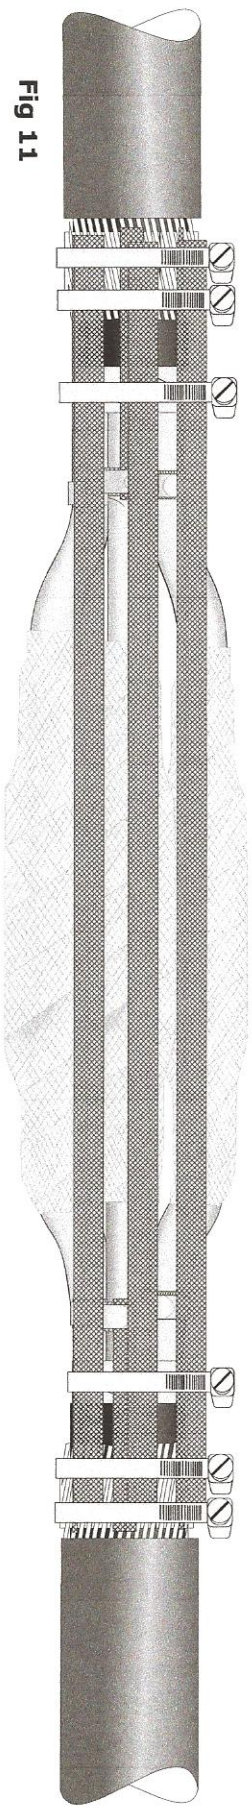

Fig 11
14. Position the 3 x main earth straps from one side of the joint to the other. Use the worm drive armour clamps supplied to secure the braids to the armour wires and the steel tape armour layer, as shown above in Fig 11.